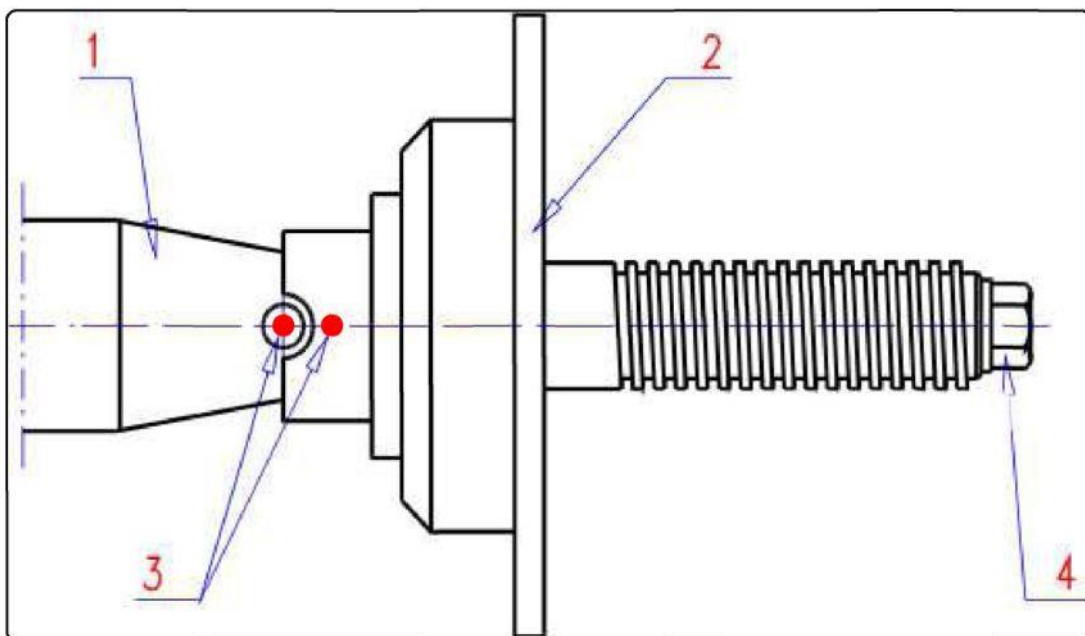

Fig. 5.2 Wheel balancer holder without nut and cones
An assembled holder for car wheels with rims having a central mounting hole is shown in fig. 5.2. Before mounting the holder, clean the cone surface of the spindle and the surface of the holder (1, 2). Place the holder on the spindle so the position of the markers (3) on the spindle's snug and on the holder is aligned as shown in the figure. Lastly, screw the holder onto the spindle with the bolt (4).
Dismount car wheel holder (fig. 5.2) and mount truck wheel holder (fig.5.6) according to the chapter 5.5.